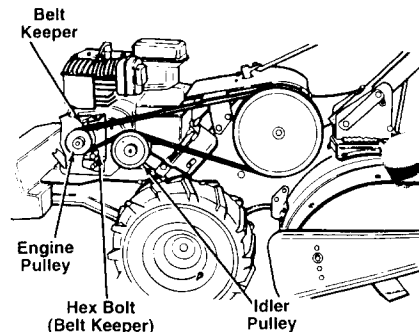

FIGURE 17
3. Remove the hex bolt (belt keeper) located beneath the engine pulley. See figure 17.
**NOTE:** Upon reassembly, make certain the belt is routed over the idler pulley and inside of belt keepers by engine pulley. See figure 17.